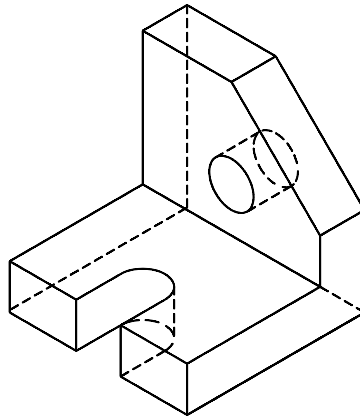

Figure 22-16 Step block with hole and slot
In this example, you will draw the required orthographic views of the object shown in Figure 22-16. Assume the dimensions of the drawing.
1. Look at the object, and determine the number of views required to show all of its features. For example, the object in Figure 22-16 will require three views only (front, side, and top).